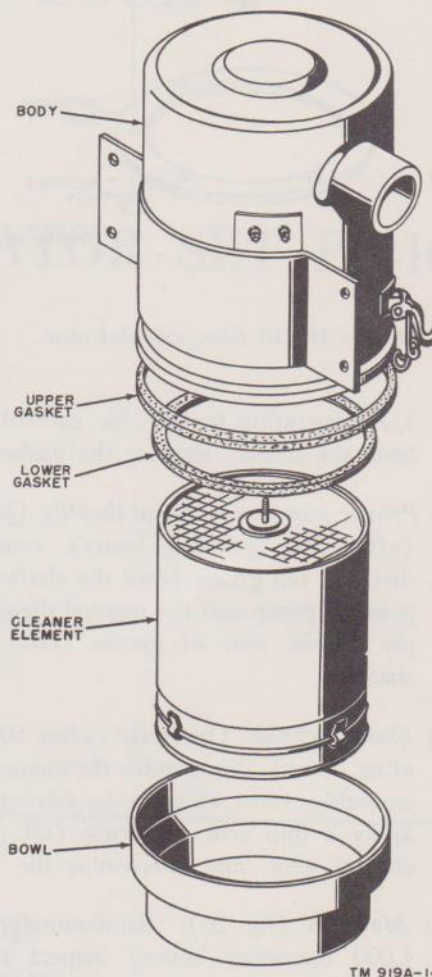

Figure 14. Air cleaner, exploded view.
*a. Air cleaner* (fig. 14). To check the quantity of oil in the air cleaner, disassemble the bowl from the body by loosening the spring clips, and see that oil is up to the caution level. Add oil as necessary. Reassemble the bowl to the body; be sure the clips are secure.
- (2) *Air Cleaner* (fig. 14). Check the quantity of oil in the air cleaner bowl weekly (after 50 operating hours). If the oil is below the caution level, add oil (OE) up to the normal level of the bowl. At monthly intervals (after 250 operating hours), remove the air cleaner element and wash it in solvent (SD). At the same time, clean the air cleaner bowl and refill with engine oil (OE). To remove the element, remove the bowl and unscrew the wing screw located on the bottom of the element housing. Then pull the element out of the housing. (The wing screw does not come out of the element.)